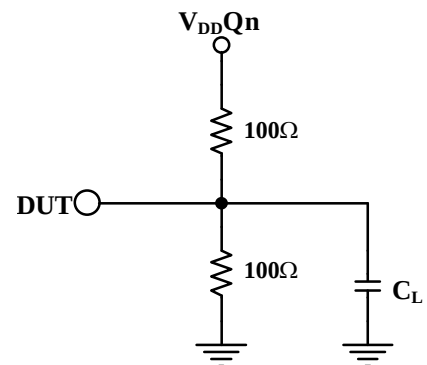

Figure 11.
- Reference Figure 11 for clock output loading circuit that is equivalent to the load circuit used for all AC testing. The input waveform used to test these parameters is shown in Figure 9.
1. Reference Figure 11 for clock output loading circuit that is equivalent to the load circuit used for all AC testing.
3. Test load = 40pF, terminated to $V_{DD} \div 2$. All outputs are equally loaded. See figure 11.